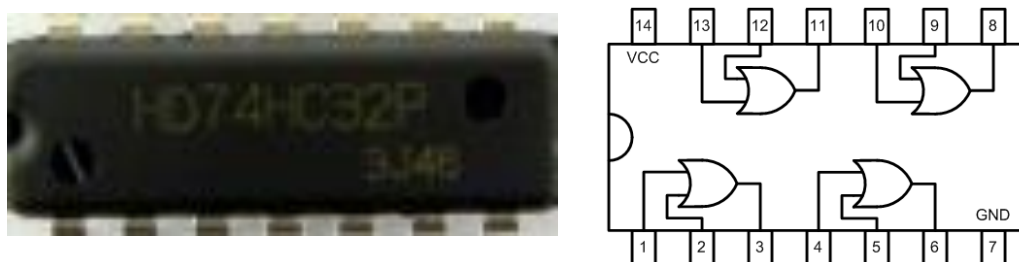

Figure 5: OR gate (74HC32) IC and its corresponding internal circuit
B. INTEGRATED CHIP (IC)
An integrated circuit (IC) is a set of electronic circuits on one small flat piece of semiconductor material, normally silicon. The integration of large numbers of tiny transistors into a small chip resulted in circuits that are smaller, cheaper and faster than those constructed of discrete electronic components. Figure 5 shows an example of OR gate IC and its corresponding internal circuit. In this IC, pin 14 (VCC) must be connected to the power supply (typically +5V DC) and pin 7 (GND) must be connected to the ground or 0V. The input pins for this IC are pin 1, 2, 4, 5, 9, 10, 12 and 13 while the output pins are pin 3, 6, 8 and 11. The input voltage for the input pins is +5V DC or 0V.